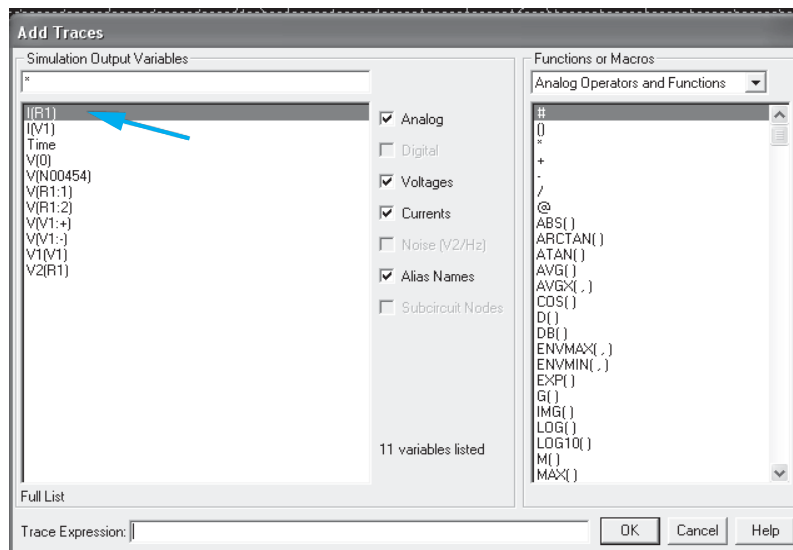

FIGURE 2.77 Add traces.
9. A window will pop up as shown in Figure 2.77. The “add trace” window allows the user to perform mathematical summation, subtraction, multiplication, and so on on the “Simulation Output Variables” in the “Trace Expression” column for various plotting. However, in this section, we only intend to observe the current flow through the resistor R1; therefore, click “I(R1)” and choose OK, or double-click “I(R1)” in Figure 2.77.